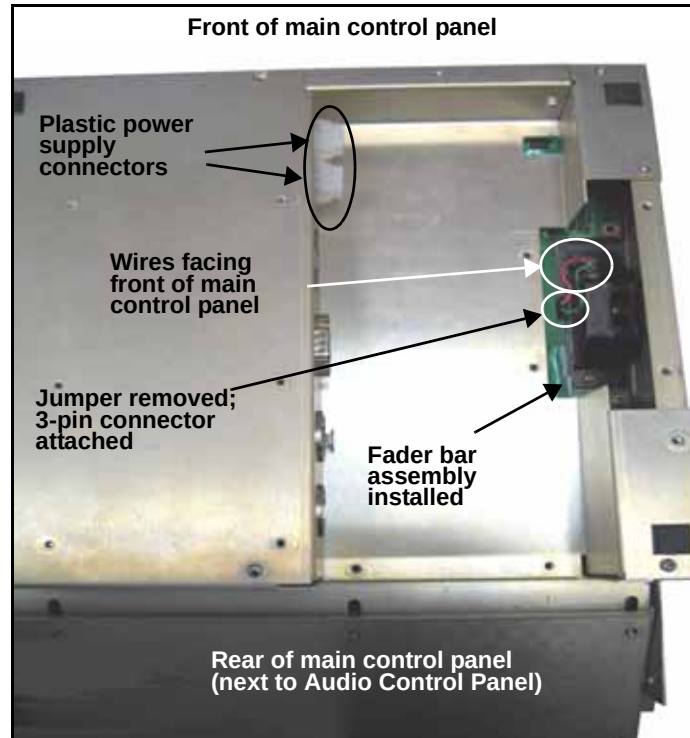

Figure 2-49. Fader Bar Installation and Connection
3. Slide the fader bar arm through the slot, so that the assembly fits over the two standoffs (see Figure 2-49).